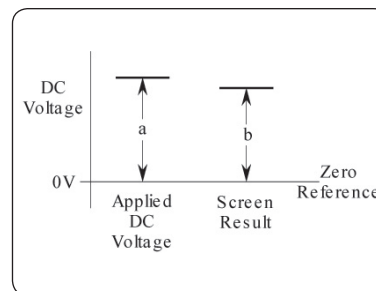
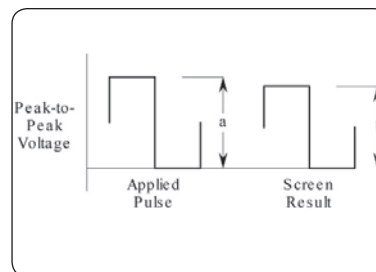

Fig. 1.2 DC voltage – gain.
Fig. 1.3 LF square wave – gain. The peak-to-peak value shown on the screen (b) is compared with the known value (a):  $b \div a = \text{Gain at 1 KHz}$ .
- i. With dc coupling, either a dc signal (Fig. 1.2 – includes offset) or a square wave (Fig. 1.3 – can be manipulated to remove the offset) is injected, and the channel's response is measured against graticule divisions or cursor readings.